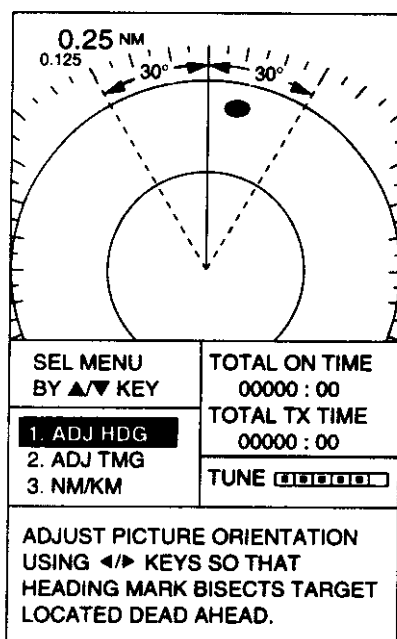

Figure 19 Display for adjustment of heading
3. Select ADJ HDG. Your display should now look something like the one shown in Figure 19.